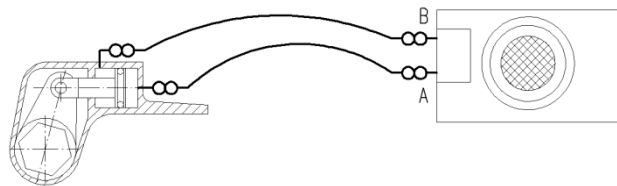

Fig. 2
- Check the fluid level; the level must be up to the middle of the oil sight glass (6).
- Connect the hydraulic device by means of the threaded couplings with the hoses and with the hydraulic torque tool: (as per Fig. 2)